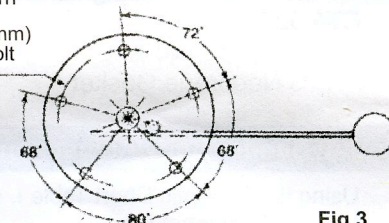

Fig 3
2. Refer to Fig. 3, slide the rubber gasket up to the bottom of the fuel sender flange.